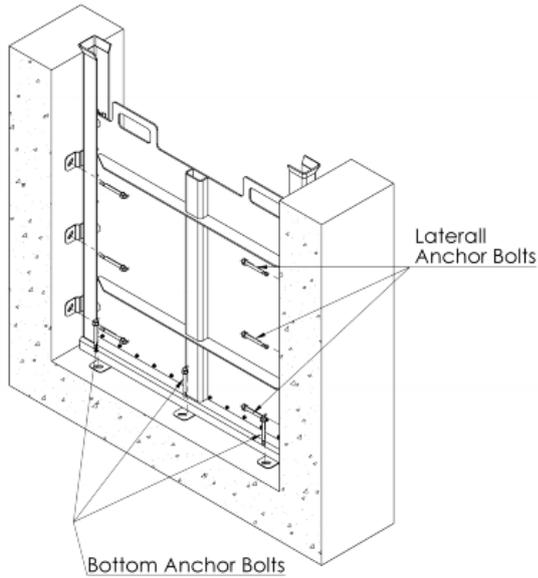

Figure 8
- Install the bottom anchor bolts, and then the lateral anchor bolts (see Figure 8). All Face Mounted Channel Gates include lateral mounting